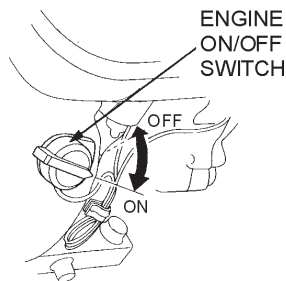

Figure 20. Engine ON/Off Switch
4. Place the **Engine ON/OFF switch** (Figure 20) in the "ON" position.
- Place the engine ON/OFF switch (Figure 20) to the "OFF" position.
- Move the engine throttle lever to the idle (**SLOW**) position (Figure 20).